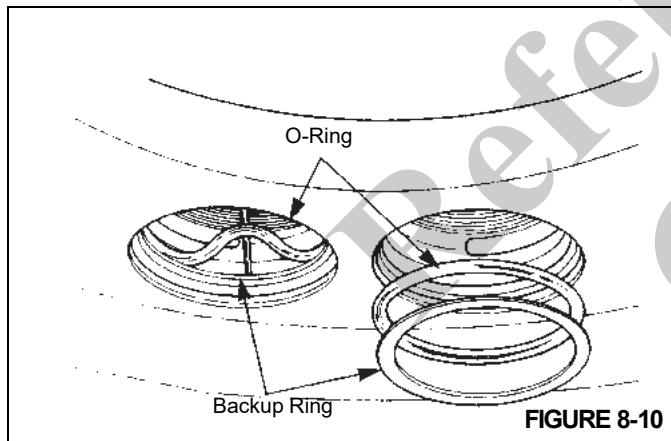

FIGURE 8-10
- Remove and discard the O-ring and the backup rings (Figure 8-10).